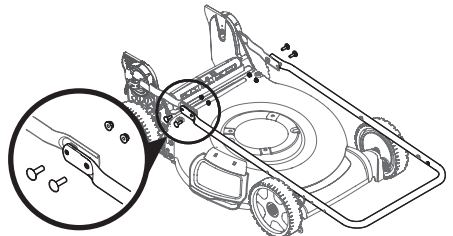

Figure 12
4. Using the four carriage bolts and nuts removed in STEP 1, secure the upper handle to the lower handle. Tighten hardware securely to secure the handle in place (Figure 12).